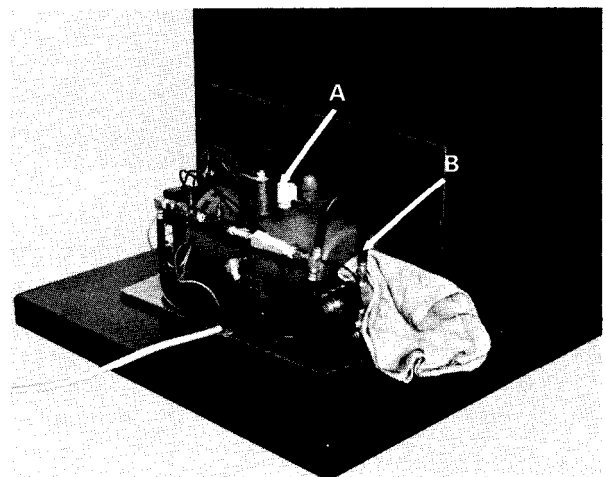

Fig. 29
- 2) Remove plastic filler cap from top of the power pack, (Item A, Fig. 29).
- 3) Remove small screw from the end of tank, (Item B, Fig. 29).
- 4) Place a rag at the end of tank near small screw hole Fig. 29 and fill at filler hole until oil runs out of small screw hole.